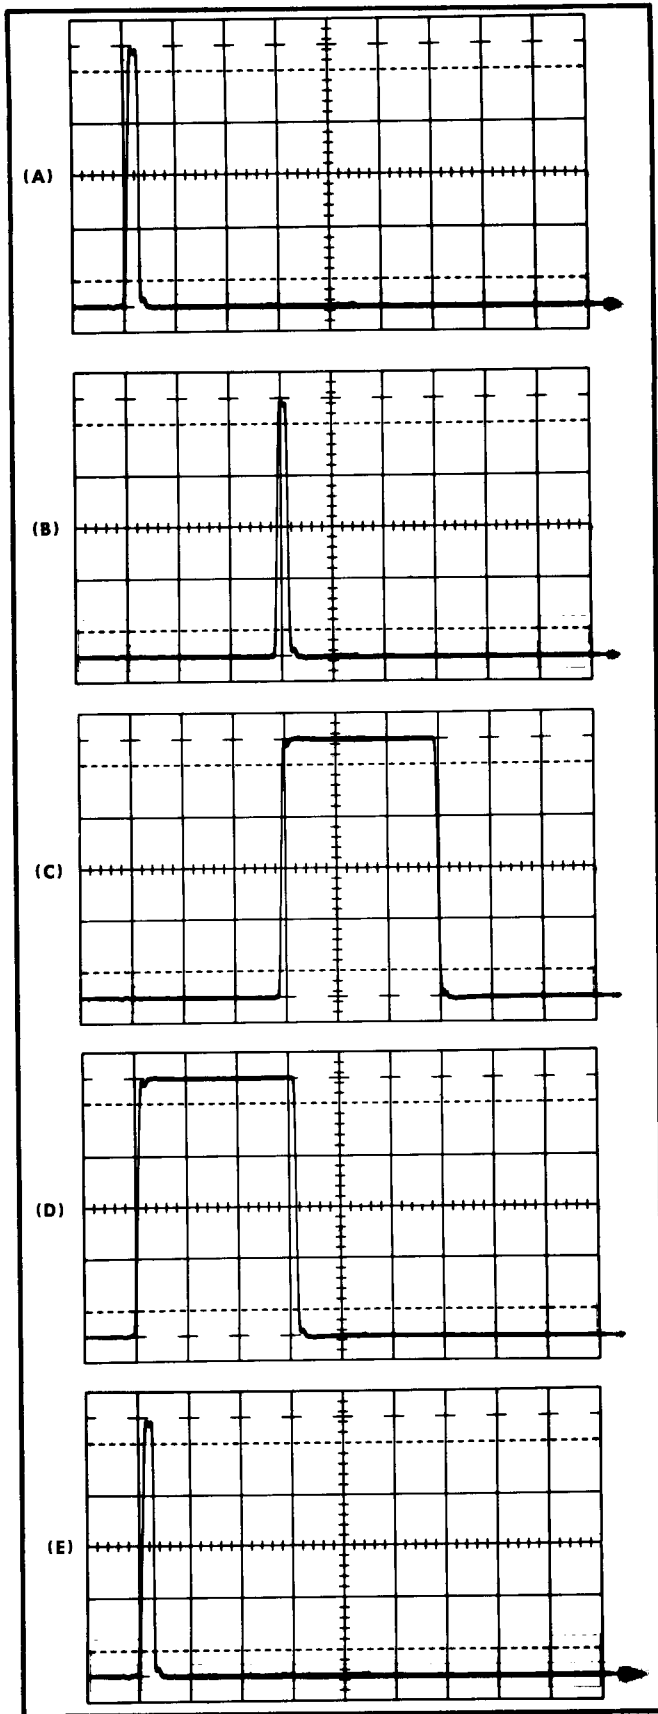

Fig. 7-10. Typical test oscilloscope displays obtained during check of width and delay trigger sensitivity adjustments (step 6g).
- g. Observe the test oscilloscope display (see Fig. 7-10) while performing the following four operations: